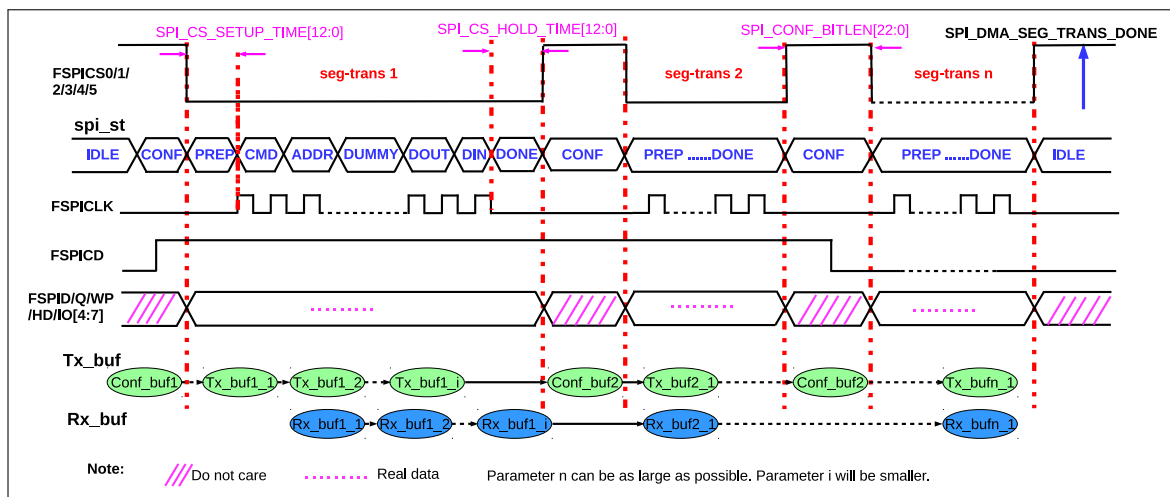

Figure 24-9. Segmented-Configure-Transfer in DMA Controlled Master Mode
An SPI transfer, controlled by the registers of GP-SPI2, needs to be configured and triggered by the CPU. To reduce CPU cost and to increase the efficiency of GP-SPI2, DMA segmented-configure-transfer function is provided in DMA-controlled master mode. (Note that CPU-controlled master mode does not support segmented-configure-transfer function.) Segmented-configure-transfer enables GP-SPI2 to do as many times of transfer as configured, with only one triggering by CPU. Figure 24-9 shows how the segmented-configure-transfer function works in DMA-controlled master mode.
As shown in Figure 24-9, GP-SPI2 registers can be reconfigured by GP-SPI2 hardware according to the content in a `Conf_bufi` during CONF state, before one single segmented-configure-transfer, `SCTi`, begins.
For example, as shown in Figure 24-9, `SCTi` can be configured to DMA-controlled full-duplex communication; `SCTj` can be configured to DMA-controlled half-duplex MISO mode; and `SCTk` can be configured to DMA-controlled half-duplex MOSI mode. *i*, *j*, and *k* are integer variables, which can be any SCT number.
It can be seen from Figure 24-9, Figure 24-10, and Figure 24-11 that a good way for GP-SPI2 to output parallel 8-bit RGB frame data is as follows:
- Data is output in each frame line in a segmented-configure-transfer. One valid video line is transferred in each single transfer (i.e. SCTI in Figure 24-9) of segmented-configure-transfer. There are  $SPI\_LCD\_VA\_HEIGHT[9:0]$  active video region lines in a frame, so that a frame data is sent in  $SPI\_LCD\_VA\_HEIGHT[9:0]$  times of SCTI.